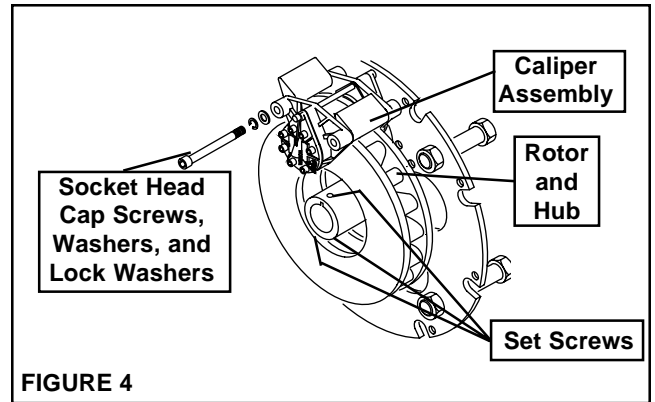

FIGURE 4
- Slide one Caliper Assembly over the Rotor and Hub (See Figure 4).
- Using Socket Head Cap Screws, Flat Washers, and Lock Washers, secure the Caliper Assembly to the Mounting Ring (See Figure 4).
- Tighten the Socket Head Cap Screws (See Figure 4).
- Tighten Set Screws (See Figure 4).